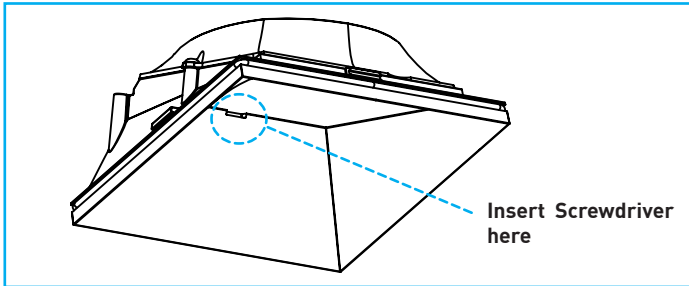

Fig.38
A. Remove baffle. Dry location baffles are removed by lifting lens and pulling down on the top of baffle. We location baffles or those with sealed lenses are removed by pulling down on the lens with a suction cup. Wallwash baffles require inserting small flat head screwdriver and carefully prying down as shown in "Fig.38".
- A. Remove baffle. Dry location baffles are removed by lifting lens and pulling down on the top of baffle. Wet location baffles or those with sealed lenses are removed by pulling down on lens with a suction cup. Wallwash baffles require inserting small flat head screwdriver and carefully prying down as shown in *"Fig.38"*.